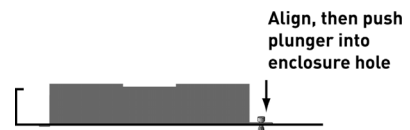

Figure 4
5. Push plunger in to lock the bracket in place (see **Figure 4**). Pull on bracket to be sure it is correctly locked into the enclosure..